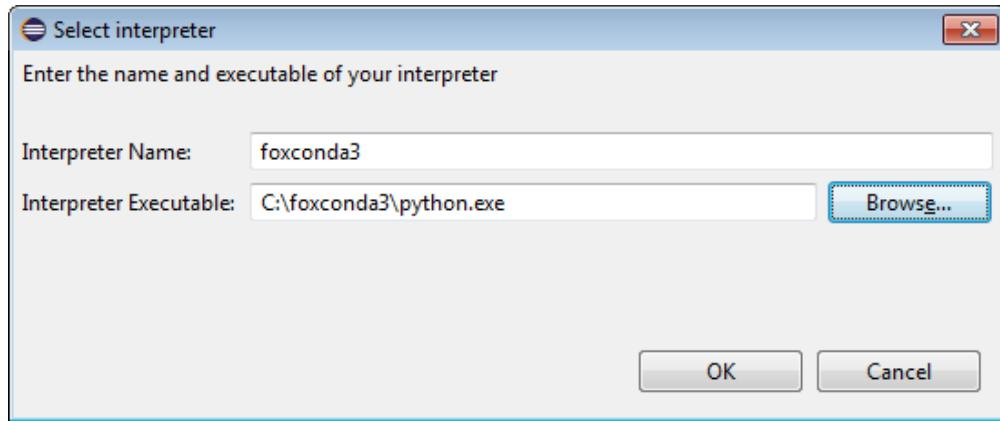

Fig. 11.7: Choosing the python interpreter name and executable
2. In the pop-up "Select Interpreter" window, shown in Fig. 11.7, use